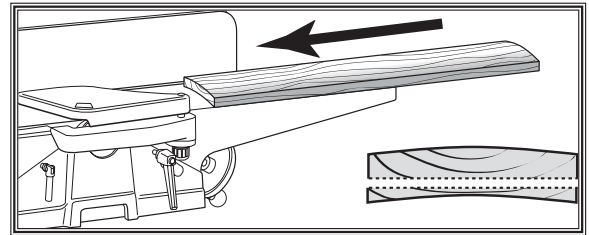

Figure 26. Surface plane on the jointer.
1. **Surface Plane On The Jointer:** The concave face of the workpiece is surface planed flat with the jointer (Figure 26).